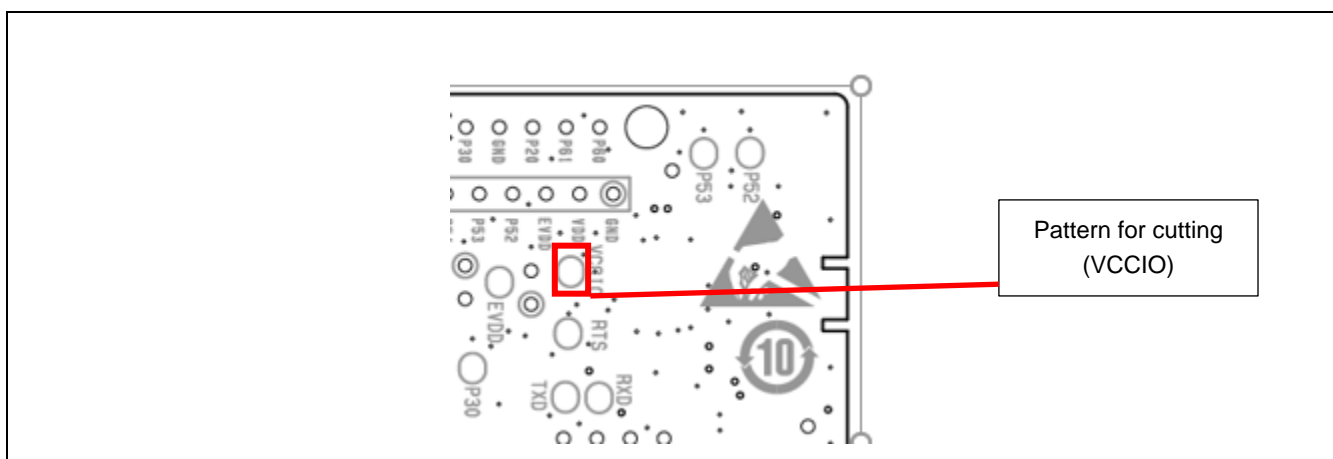

Figure 5-11 Position of the Pattern for Cutting (VCCIO)
Insert an ammeter between the sockets of the current measurement header (J18) to measure the current. Remove the pattern for cutting (VCCIO) (Figure 5-11) and turn down the LED to reduce the current drawn with an MCU other than the evaluation MCU.
If you intend to use this board without connecting a USB connector, remove the given pattern for cutting (VCCIO). Figure 5-11 shows the position of the pattern for cutting. Also make the J15 header open-circuit (header components are not mounted).
4. If power to be supplied to this product other than via the USB, make J15 open-circuit and remove the pattern for cutting (VCCIO) (Figure 5-11).